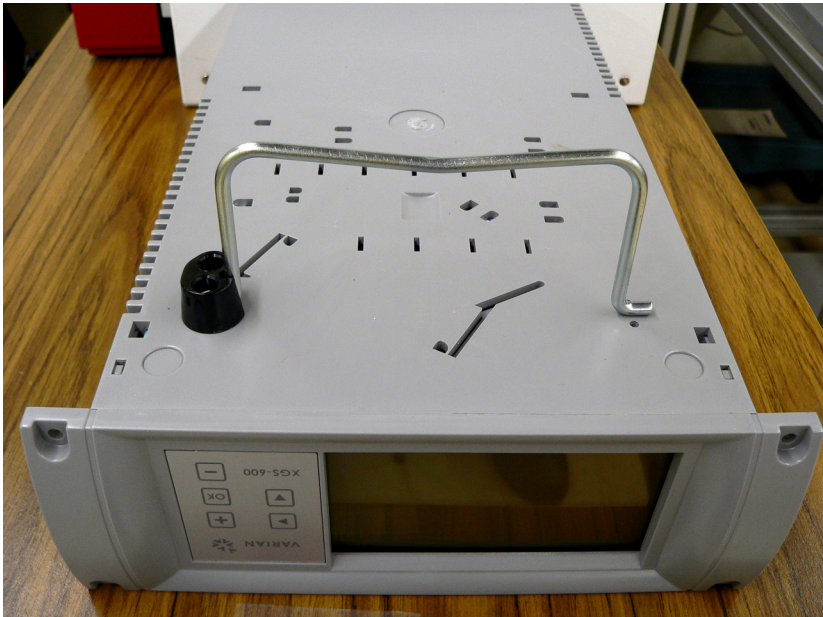

Figure 6: Wire Stand with One Foot
4. Slip the wire stand into the notch of the mounted foot and leave the wire stand in the upright position (Figure 6: Wire Stand with One Foot).